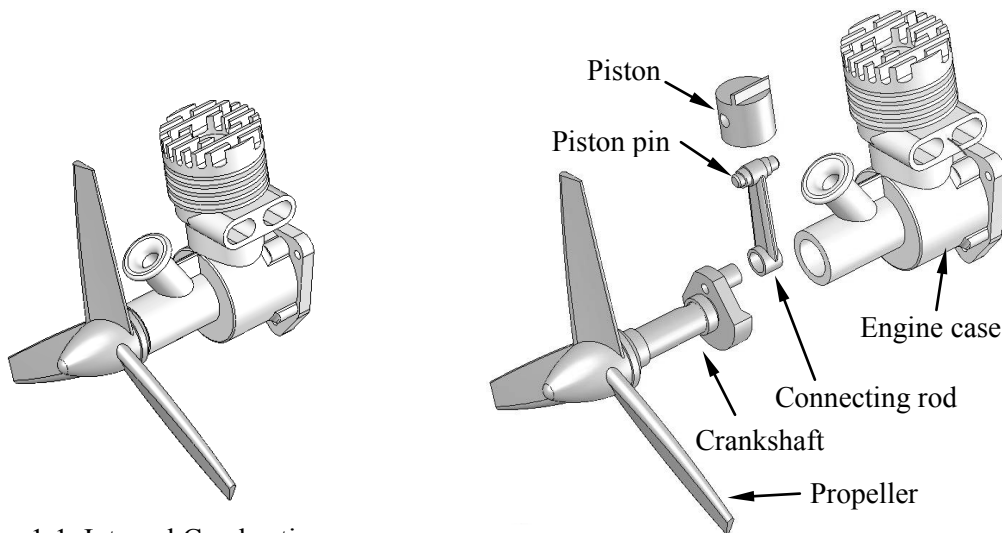

Figure 1-1 Internal Combustion
*Mechanism* is a computer software tool that enables engineers to analyze and design mechanisms. *Mechanism* is a module of the *PTC Creo* product family developed by *Parametric Technology Corporation*. This software allows users to create virtual mechanisms that answer general questions in product design such as those described next. An internal combustion engine shown in Figures 1-1 and 1-2 is used to illustrate some of the typical questions in mechanism design.